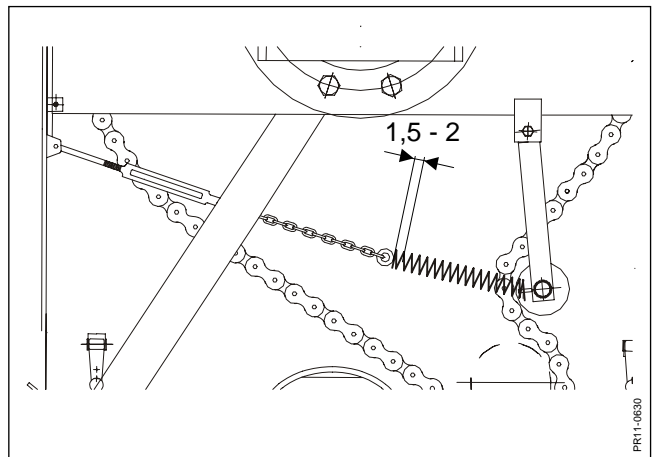

Fig. 9.4
- Fig. 9.4** Tightening of 1 3/4" chain: turnbuckle is tightened until the distance between the coils of the spring is 1,5 – 2 mm. Do not forget to tighten the 2 counternuts after adjustment of the turnbuckle.